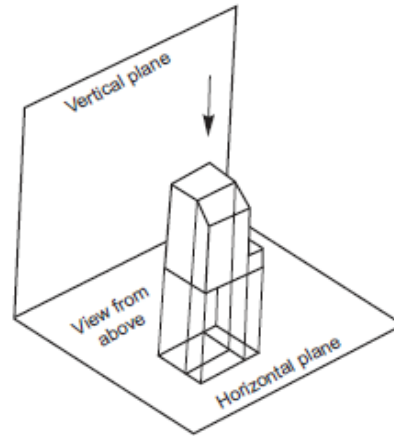

Fig. 3.2 Principle of obtaining the view from above
- b) **View from Above:** The view from above of an object is defined as the view that is obtained as projection on the horizontal plane, by looking the object normal to its top surface. Figure 3.2 shows the method of obtaining the view from above of an object.